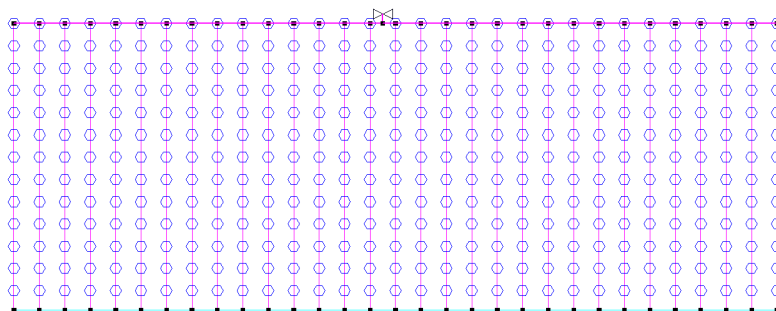

Figure 4-40
15. Because we selected “User Defined” for the “Lateral Direction” we now have to enter two points that define the lateral direction (this will be indicated in the bottom left of the status bar). *Right-click|Snaps|Endpoint* and click on the left top corner of the rectangle. Now you will notice that the status bar is asking for the 2nd point in the block lateral. *Right-click|Snaps|Endpoint* and click on the bottom left corner. Once this is completed the laterals are automatically drawn, with a submain at the top of the block and a central valve with a **5ft (1.5m)** stub, as in Figure 4-40.